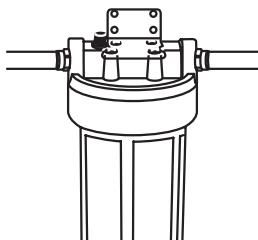

Figure 6
- 8** Fasten bracket to filter head with four Phillips Head screws provided If pre-drilling holes, use bracket as a template for screw hole locations. (See Figure 6).